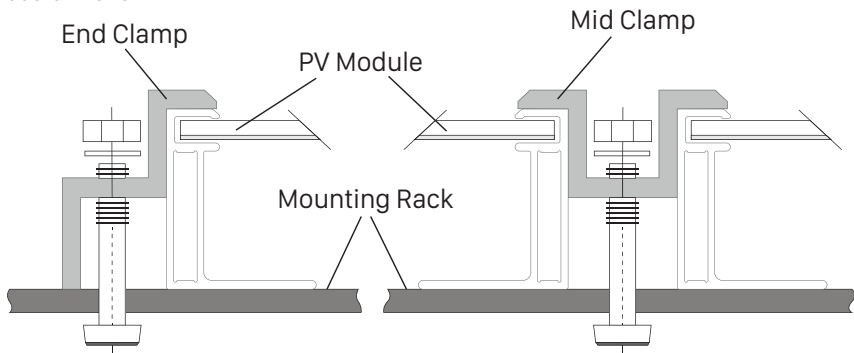

Figure 6. Clamping mounting method/ Méthode de montage par serrage
- **Clamps must be installed according to the manufacturer's specific instructions. Do not apply excessive pressure on the frame such that the frame deforms. IREX recommends a torque of approximately 18 – 20 [Nm]. Please see details in figure 6.**
Les pinces doivent être installées conformément aux instructions spécifiques du fabricant. N'appliquez pas de pression excessive sur le cadre afin d'éviter que le cadre ne se déforme. IREX recommande un couple d'environ 8 Newton mètre [Nm]. Voir les détails sur la figure 6.
- In case of heavy snowfall, relatively large snow load or large wind pressure exist in the module installation area, IREX suggests the customer to select the 5400 Pa strengthening installation scheme to clamp and fix the module (as shown in figure 6) to improve the bearing capacity of the module for static snow load at front side and dynamic wind pressure at back side, and enhance the system capacity.